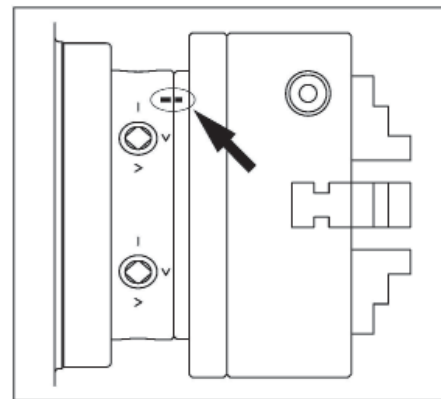

Figure 29. Chuck timing marks aligned.
6. If equipped, align the chuck-to-spindle timing marks (Figure 29), and slide the chuck onto the spindle.